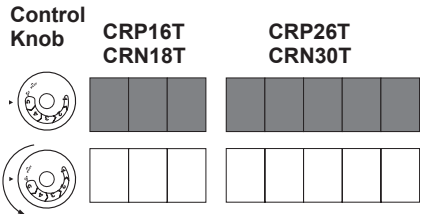

Figure 24 - Burner Patterns
8. Turn thermostat control knob counter-clockwise to the desired heating level. The main burner should light. Set control knob to any heat level between 1 and 5 (see Figure 24).